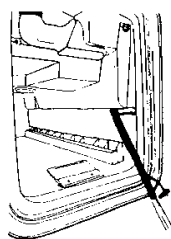

Fig. 4-5
1. Empty the fresh water tank using drain tube. Position drain tube outward through door opening. Pull off the plug and drain water from tank. (Fig. 4-5)